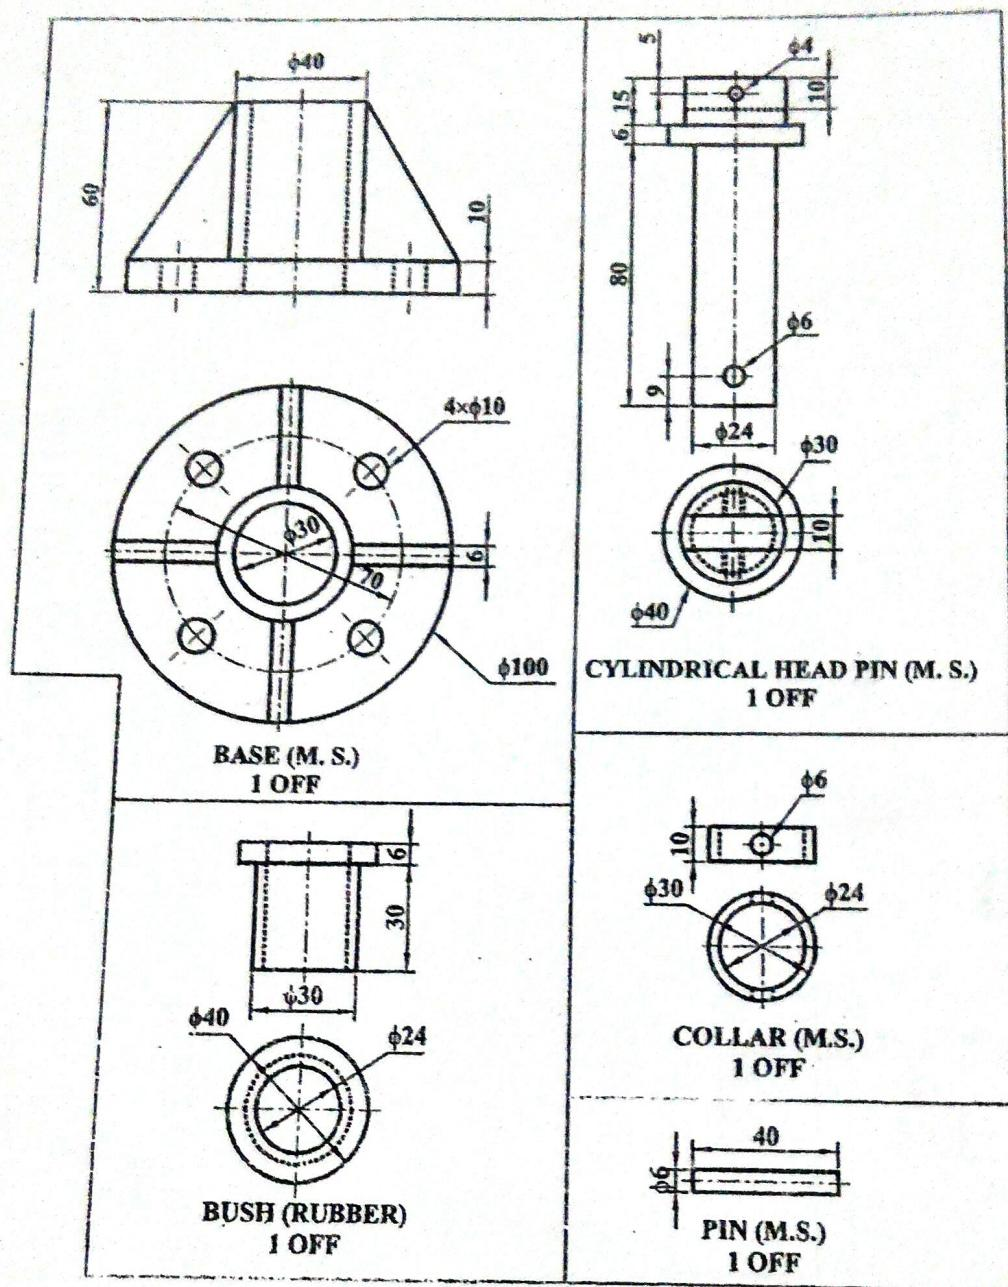

Figure 3
- 3: Draw assembly drawing from the machine components from figure 3.